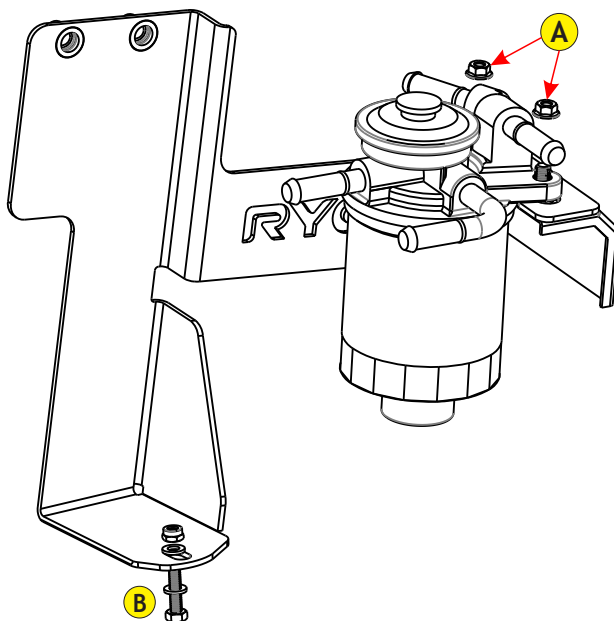

FIG. 1 BRACKET INSTALLATION
1. Remove the two nuts (marked A in Fig. 1) securing the factory filter to the vehicle. Lift the factory filter and fit Ryco fuel filter metal bracket in the same position as the factory fuel filter. Place the factory filter housing on top of the Ryco fuel filter bracket and slightly tighten the nuts previously removed.
Note: Install the factory bolt at point B in Fig. 1 in the orientation shown. The bolt should be installed from the wheel house up in to the engine bay so the bolt does not protrude down under the vehicle.